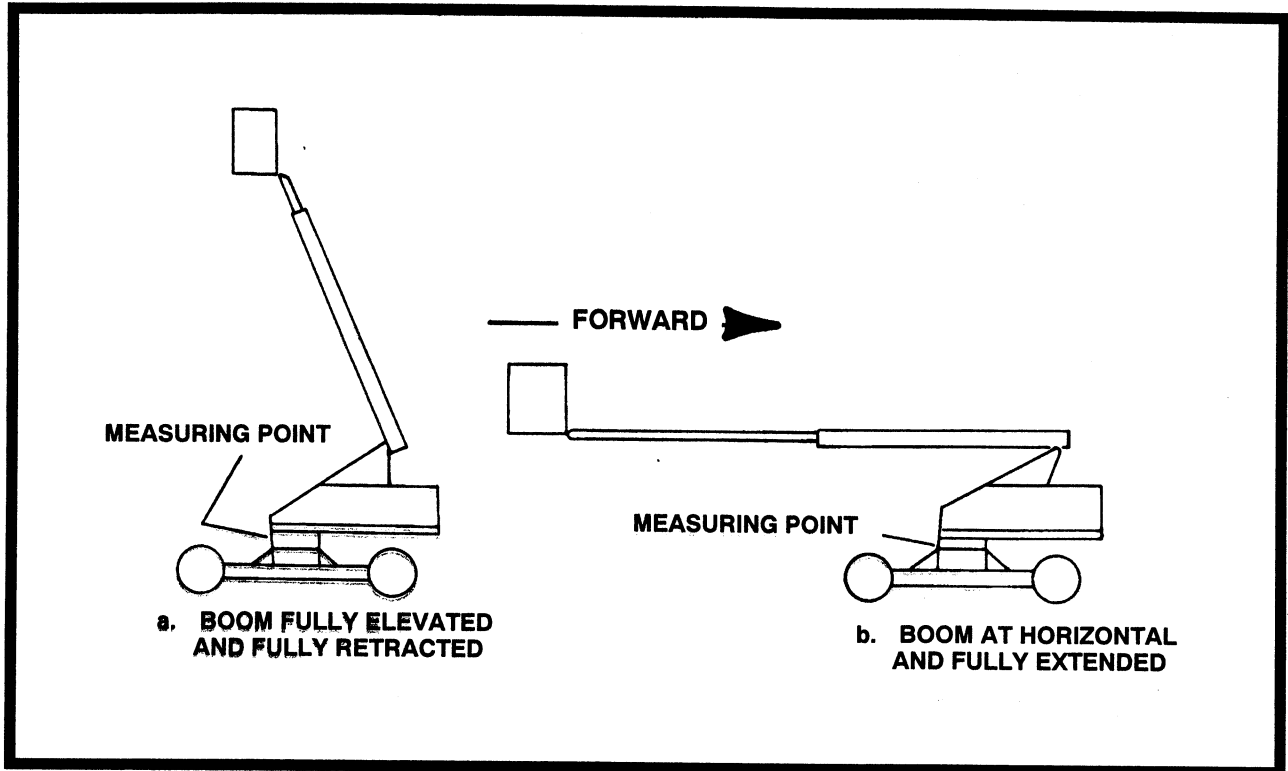

Figure 2-19. Swing Bearing Tolerance Boom Placement.
- (1). From the underside of the machine, at rear center, with the boom fully elevated and fully retracted (See Figure 2-19a.), using a magnetic base dial indicator, measure and record the distance between the swing bearing and frame. (See figure 2-19.)
- (2). At the same point, with the boom at horizontal and fully extended (See Figure 2-19b.), using a magnetic base dial indicator, measure and record the distance between the swing bearing and frame. (See Figure 2-19.)
- (3). If a difference greater than .057" (1.45 mm) is determined, the swing bearing should be replaced.
- (4). If a difference less than .057" (1.45 mm) is determined, and any of the following conditions exist, the bearing should be removed, disassembled, and inspected for the following:
- (5). If bearing inspection shows no defects, reassemble and return to service.